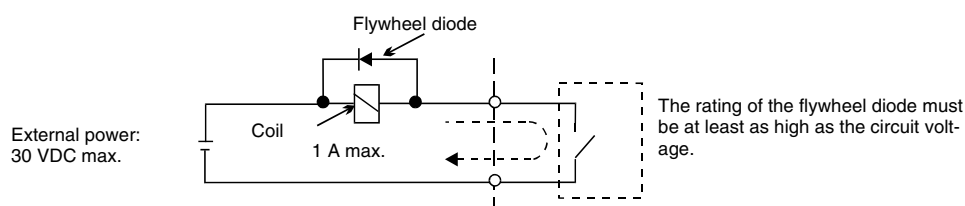

Fig 6 Flywheel Diode Connection
- *3. When driving a reactive load, such as a relay coil with DC power supply, always insert a flywheel diode as shown in Fig 6